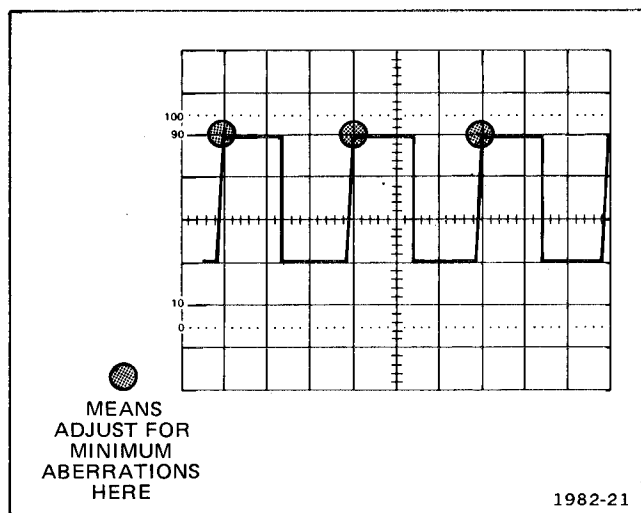

Fig. 4-5. Display of correct (idealized) attenuator compensation.
e. ADJUST—C4205 (see Fig. 4-4) for best square front corner (see Fig. 4-5 for example). Disconnect test equipment.